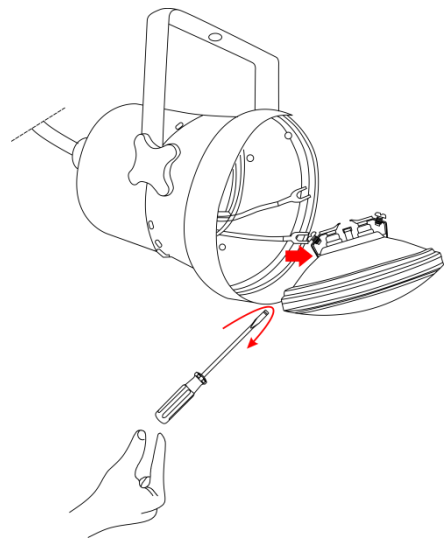

Fig. 06
- 05) Connect the main feed cables with the screws and insert a flat-headed screwdriver into the screws. Turn gently right to tighten them (Fig.06).